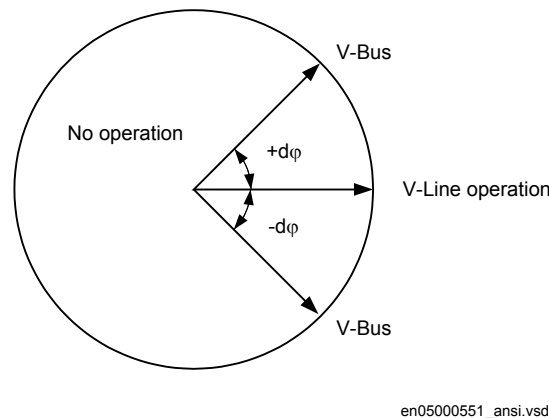

Figure 20: Test of phase difference
3. Change the phase angle between $+d\phi$ and $-d\phi$ and verify that the two outputs are activated for phase differences between these values but not for phase differences outside, see figure 20.